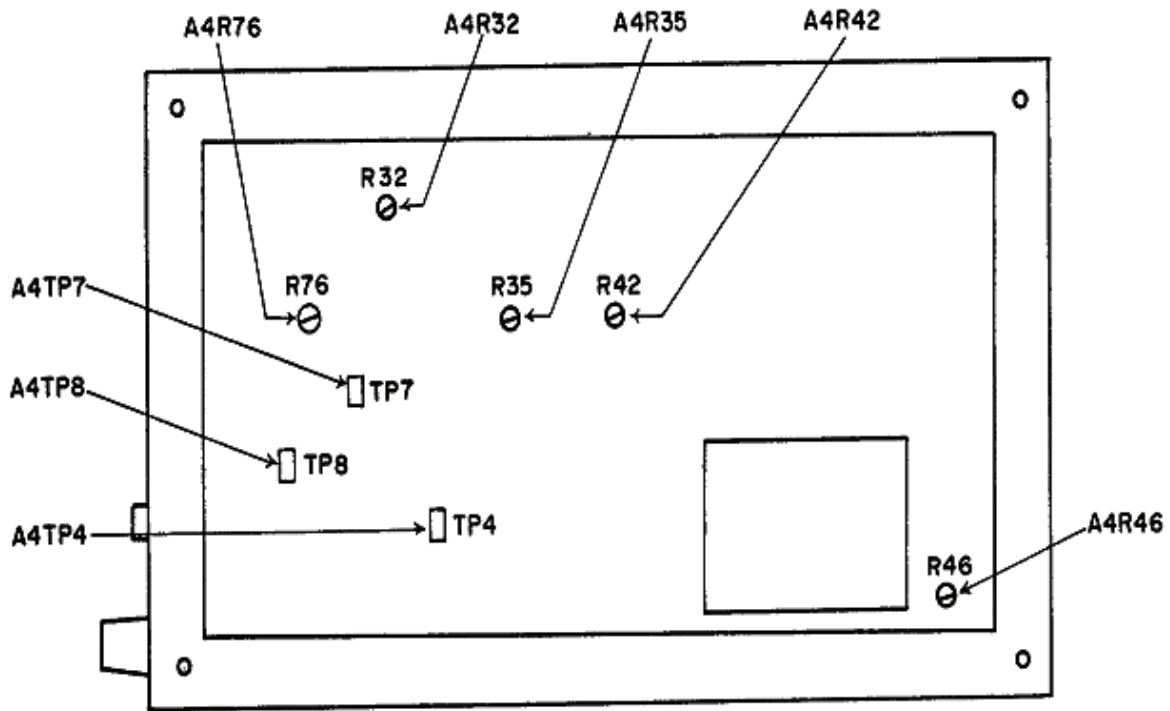

Figure 2. Model 435A - right view.
- (1) Adjust A4R35 (fig. 2) for a 1 V indication on TI meter.
- (2) Set TI **LINE** switch to **OFF**. If TI meter does not indicate **0** (zero), adjust to **0** using adjustment screw located below meter face.
- (3) Set switches as listed in (a) through (d) below:
- (4) Set range calibrator switches as listed in (a) through (c) below:
- (5) Connect frequency counter between A4TP8 (fig. 2) and ground. If frequency counter does not indicate between 204 and 236 Hz, for model 435A, or between 208 and 232 Hz for model 435B, perform (6) through (10) below. If frequency counter is within limits, proceed to (11) below.
(a) Establish a horizontal grid line as dc average of test point A4TP4 (fig. 2) by setting range calibrator **FUNCTION** switch to **STANDBY**.
(10) Adjust A4R76 (fig. 2) until zero crossover lags the square wave 150 μ s (R).
(11) Repeat (3) above.
(12) Position A4R46 (fig. 2) to its mechanical center position.
(13) Adjust A4R32 (fig. 2) until multimeter indicates 0 ± 0.2 mV dc (R).
(14) Set range calibrator **FUNCTION** switch to **CALIBRATE** and TI range to **1 mW**.
(15) Adjust **CAL ADJ** until multimeter indicates $1,000 \pm 1$ mV dc.
(16) Adjust A4R35 (fig. 2) until TI meter indicates full scale (R).
(17) Set range calibrator to **STANDBY**.
(18) Set **RANGE** switch to **3 μ W** and press and hold **ZERO** switch. Adjust A4R42 (fig. 2) until multimeter indicates 0 mV dc (R). Release **ZERO** switch.
(19) Set TI **RANGE** switch to **1 mW**.
(20) Set range calibrator **FUNCTION** switch to **CALIBRATE**.
(21) Press and hold **ZERO** switch. Adjust A4R46 (fig. 2) until multimeter indicates 961 mV dc (R). Release **ZERO** switch.